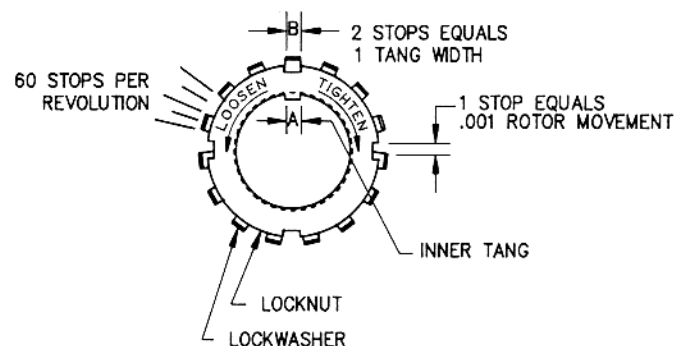

Figure 9 — Locknut Assembly
The purpose of the locknut adjustment is to center, and maintain the pump rotor between the heads. It is very important that the bearing locknuts be installed properly. Overtightening locknuts will cause bearing failure and/or a broken lockwasher inner tang "A" (see Fig. 9). Loose locknuts will allow the rotor to shift, causing wear on the discs.
1. Install the lockwashers with the tangs facing outward, and the locknuts with the tapered face inward. Be sure the inner tang "A" (see Fig. 9) of the lockwasher does not slip out of the tang keyway. Bend the tang toward the keyway if necessary.
5. Back off the nut the width of one lockwasher tang "B" (see Fig. 9) or two stops, if necessary. Secure the locknut by bending the closest aligned lockwasher tang into the locknut slot. Make sure the pump turns freely when rotated by hand.
6. Tighten the other locknut by hand until it is snug against the bearing, and the bearing is firmly seated in the hub recess. With a spanner wrench, tighten the nut the width of one lockwasher tang "B" (see Fig. 9), or 2 stops, if necessary. Secure the locknut by bending the aligned lockwasher tang into the groove in the locknut. The pump should continue to turn as freely as before adjustment.